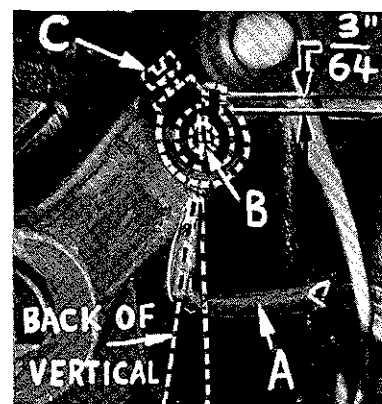

Fig. 7
Insert spreader (A, Fig. 7) in its holder. Screw (B, Fig. 7) holds spreader in its holder, and permits spreader to be pushed in or out or turned around its shank. Screw (C, Fig. 7) on collar holds spreader holder in the shaft, and allows holder to be rotated or adjusted laterally.
**Preliminary Setting:** When the spreader is at the right end of its stroke, spreader holder should be set to position spreader shank back of vertical (Fig. 7). The top end of spreader shank should extend about  $\frac{3}{64}$  inch above holder (Fig. 7).